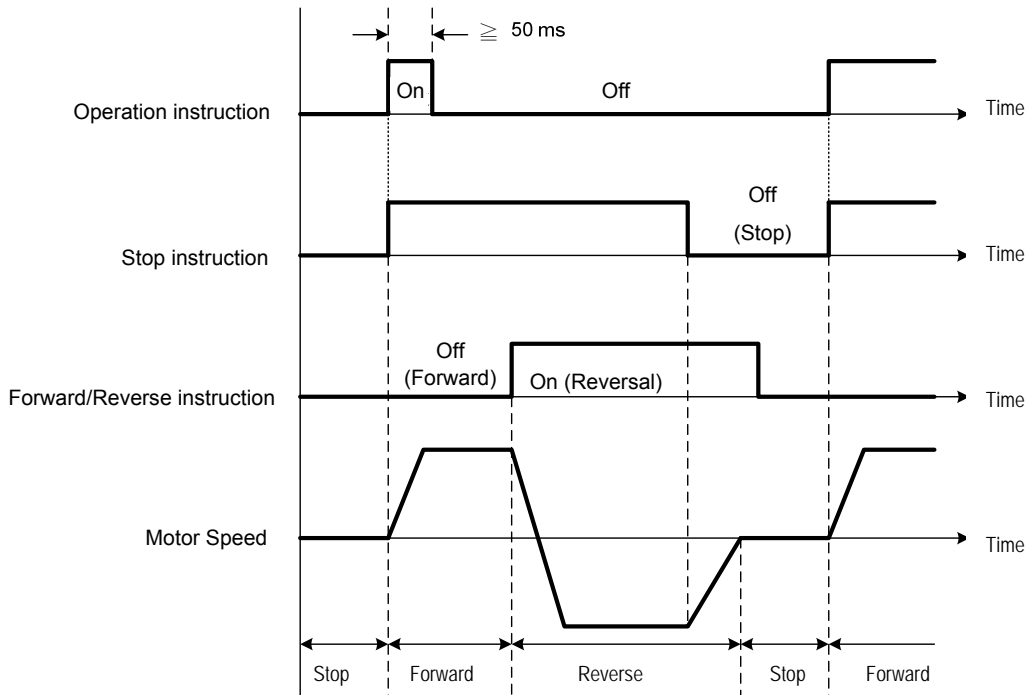

Figure 4.3.3 3-wire operation procedure
- . Terminal S1 must be ON for 50 ms or longer time so that the operation command can perform self-sustaining. Refer to Figure 4.3.3 3-wire operation procedure.